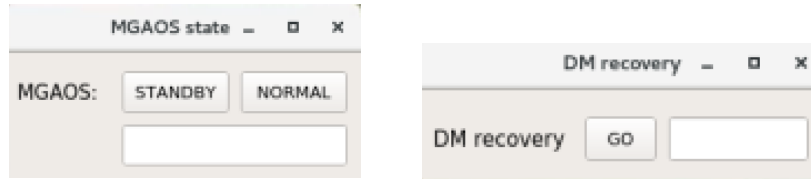

Figure 20: Recovery procedure GUIs for AO processes.
For PyWFS operation the Shack-Hartmann wavefront controller (WC)/MGAOS must be in `STANDBY` (if it is in `NORMAL` it is possible for both the Shack-Hartmann and PyWFS to send commands to the DM at the same time). The `More` button will open a GUI (see **FIGURE 20**) which allows the user to set the WC to `NORMAL` or `STANDBY`.
The status will be red if the DM commands contain nans, yellow if they are all zeros and green otherwise. The `More` button will open the `DM recovery` GUI (see **FIGURE 20**) for use to reset the DM in the PRTC channels when they contain nans.